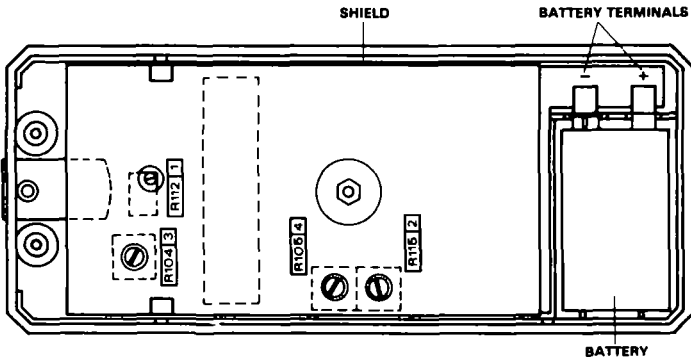

Figure 4. Battery Installation
3. Place the new battery in the battery compartment. Be sure to observe the proper polarity. Refer to Figure 4.
2. Turn on the Model 873 and perform the calibration adjustments listed in Table 2 (873C) or Table 3 (873F). For access to calibration adjustments refer to Figure 4.